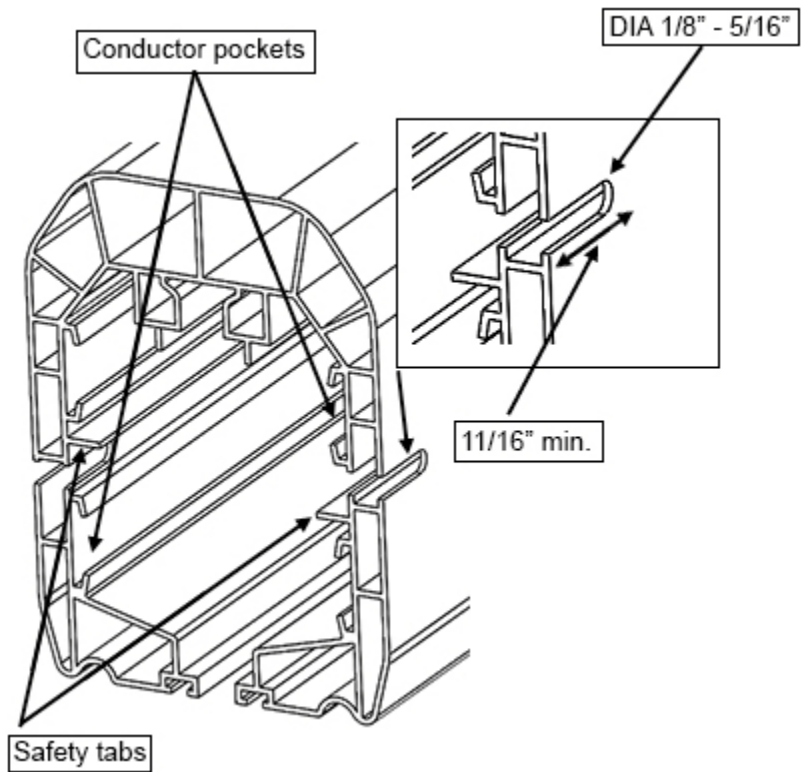

Figure 37: Notch Placement (200 A)
4. With a small rotary tool, make a minimum 11/16" long notch with a 1/8"-5/16" width bit on each side of the bar (Figure 37). This notch is important to prevent tracking (conduction across the surface of the plastic) of electricity between the phases.
- a. The notch should be located between the safety tab and the pocket where the conductor bar is located. Sides are not symmetrical (Figure 37).